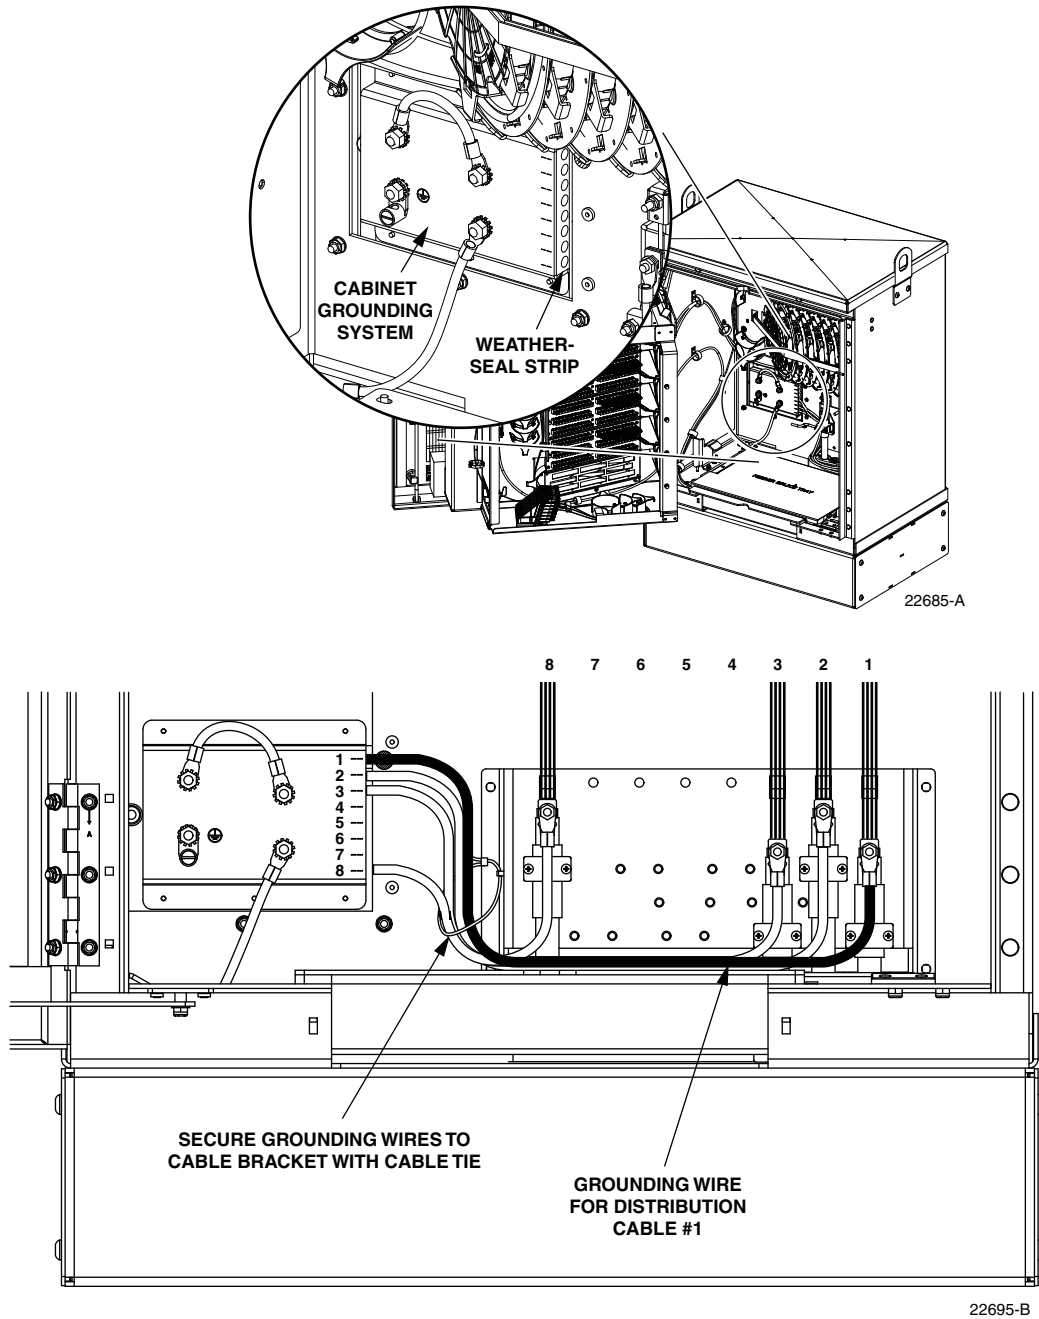

Figure 31. Route Grounding Cable to Grounding System
2. Locate the weather-seal strip attached to the right side of the cabinet grounding system as shown in Figure 31.
3. Route the distribution cable jumper wire to the weather-seal strip as shown in Figure 31 and push the free end of the wire through the hole that corresponds to the cable mounting position.